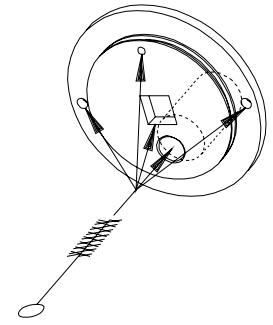

Figure 6-5
- a. The dispense head piston openings, breaker bar bushing cavity, air bleed hole, dispense outlet-valve opening, and the head mounting, as shown in figure 6-5.